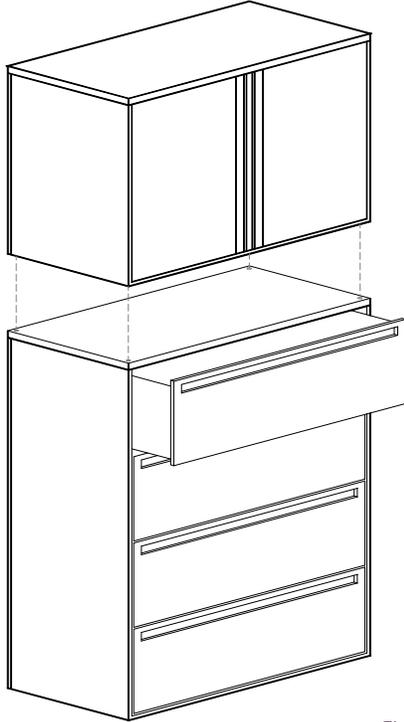

Figure 4
2. Secure the upper unit to the lower one near the (4) corners of the top using the self drilling #10 screws from inside lower unit (Figure 4).